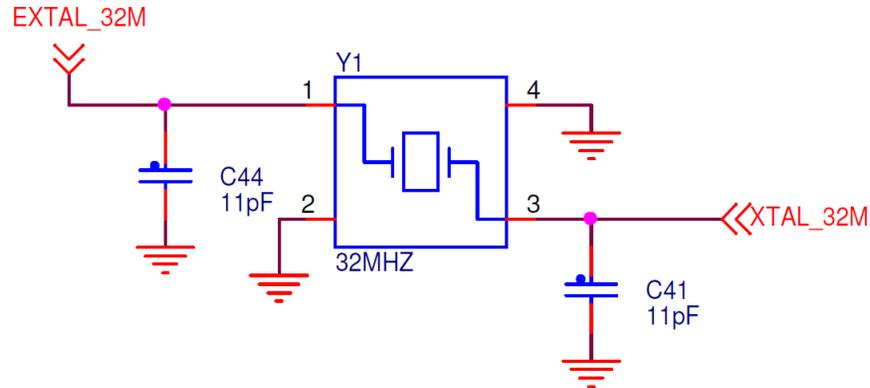

Figure 7. FRDM-KW40Z board's 32 MHz reference oscillator circuit
- 32 MHz Reference Oscillator: Figure 7 shows the external 32 MHz external crystal Y1. This mounted crystal must meet the specifications outlined in the AN3251 application note. The IEEE Std. 802.15.4 requires that the frequency be accurate to less than ± 40 ppm.